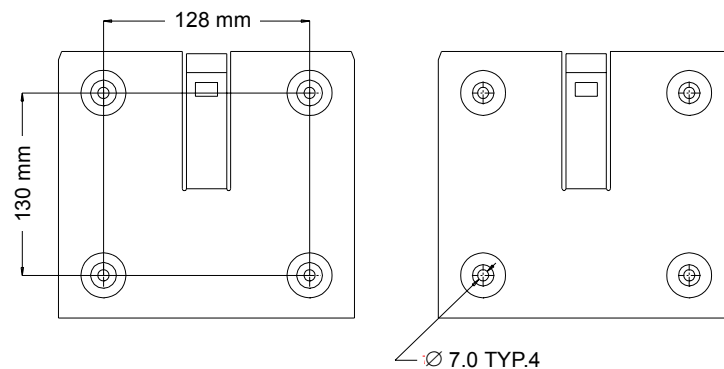

Figure 6
A mounting plate can be ordered for wall mounting of the RTU (see Figure 6). To mount the RTU using a mounting plate, proceed as follows:
2. Lift the RTU housing above the plate, and slide the mounting plate into place (see Figure 6).